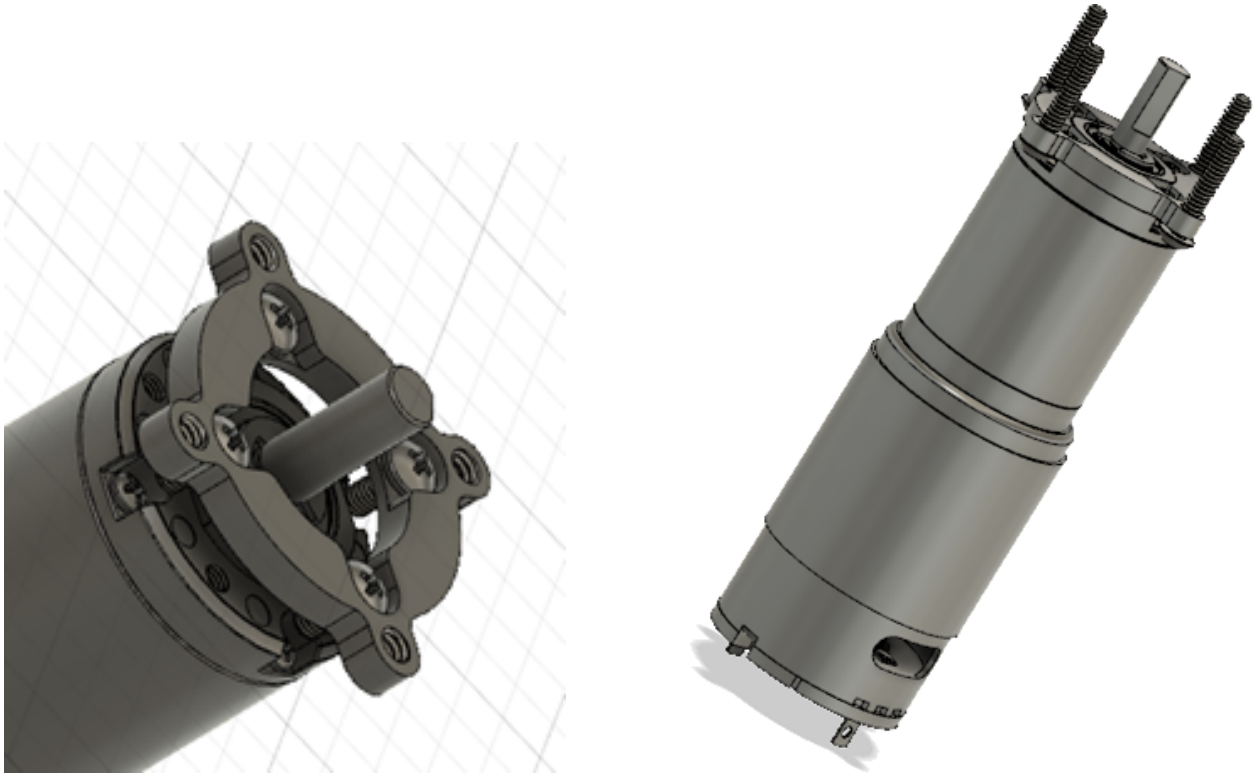

Figure 1: Corner Steering Motor Mount attachment (left) and **B5** screw insertion (right)
1. **Motor Mount:** Begin by mounting the motor mount **S9** to the motor **E6** using the screws procured with the mount. Once completed, insert the **B5** screws that will be used to connect the mount through the 3-inch channel. Due to the orientation of the motor inside of the 3-inch channel, adding these screws later is difficult. See Figure 1.